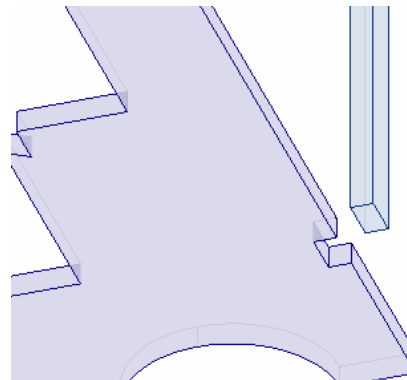

Figure 19. Orient left side piece.
38. Move the left side piece so it is oriented similar to figure 19. Turn on the transparent view mode for easier viewing if desired.